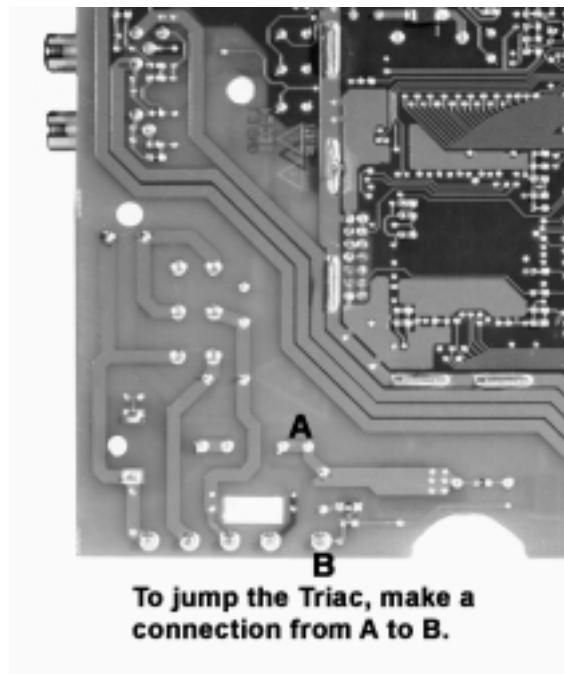

Figure 5. Triac Jumping View on DSP PCB
3. Jumper point A to point B on the PCB as shown in Figure 5 below. Point A is the fuse clip and Point B is J7 pin 1. There are two versions of the Triac, one is a through hole device and the other is a surface mount device. This procedure will work with either version.